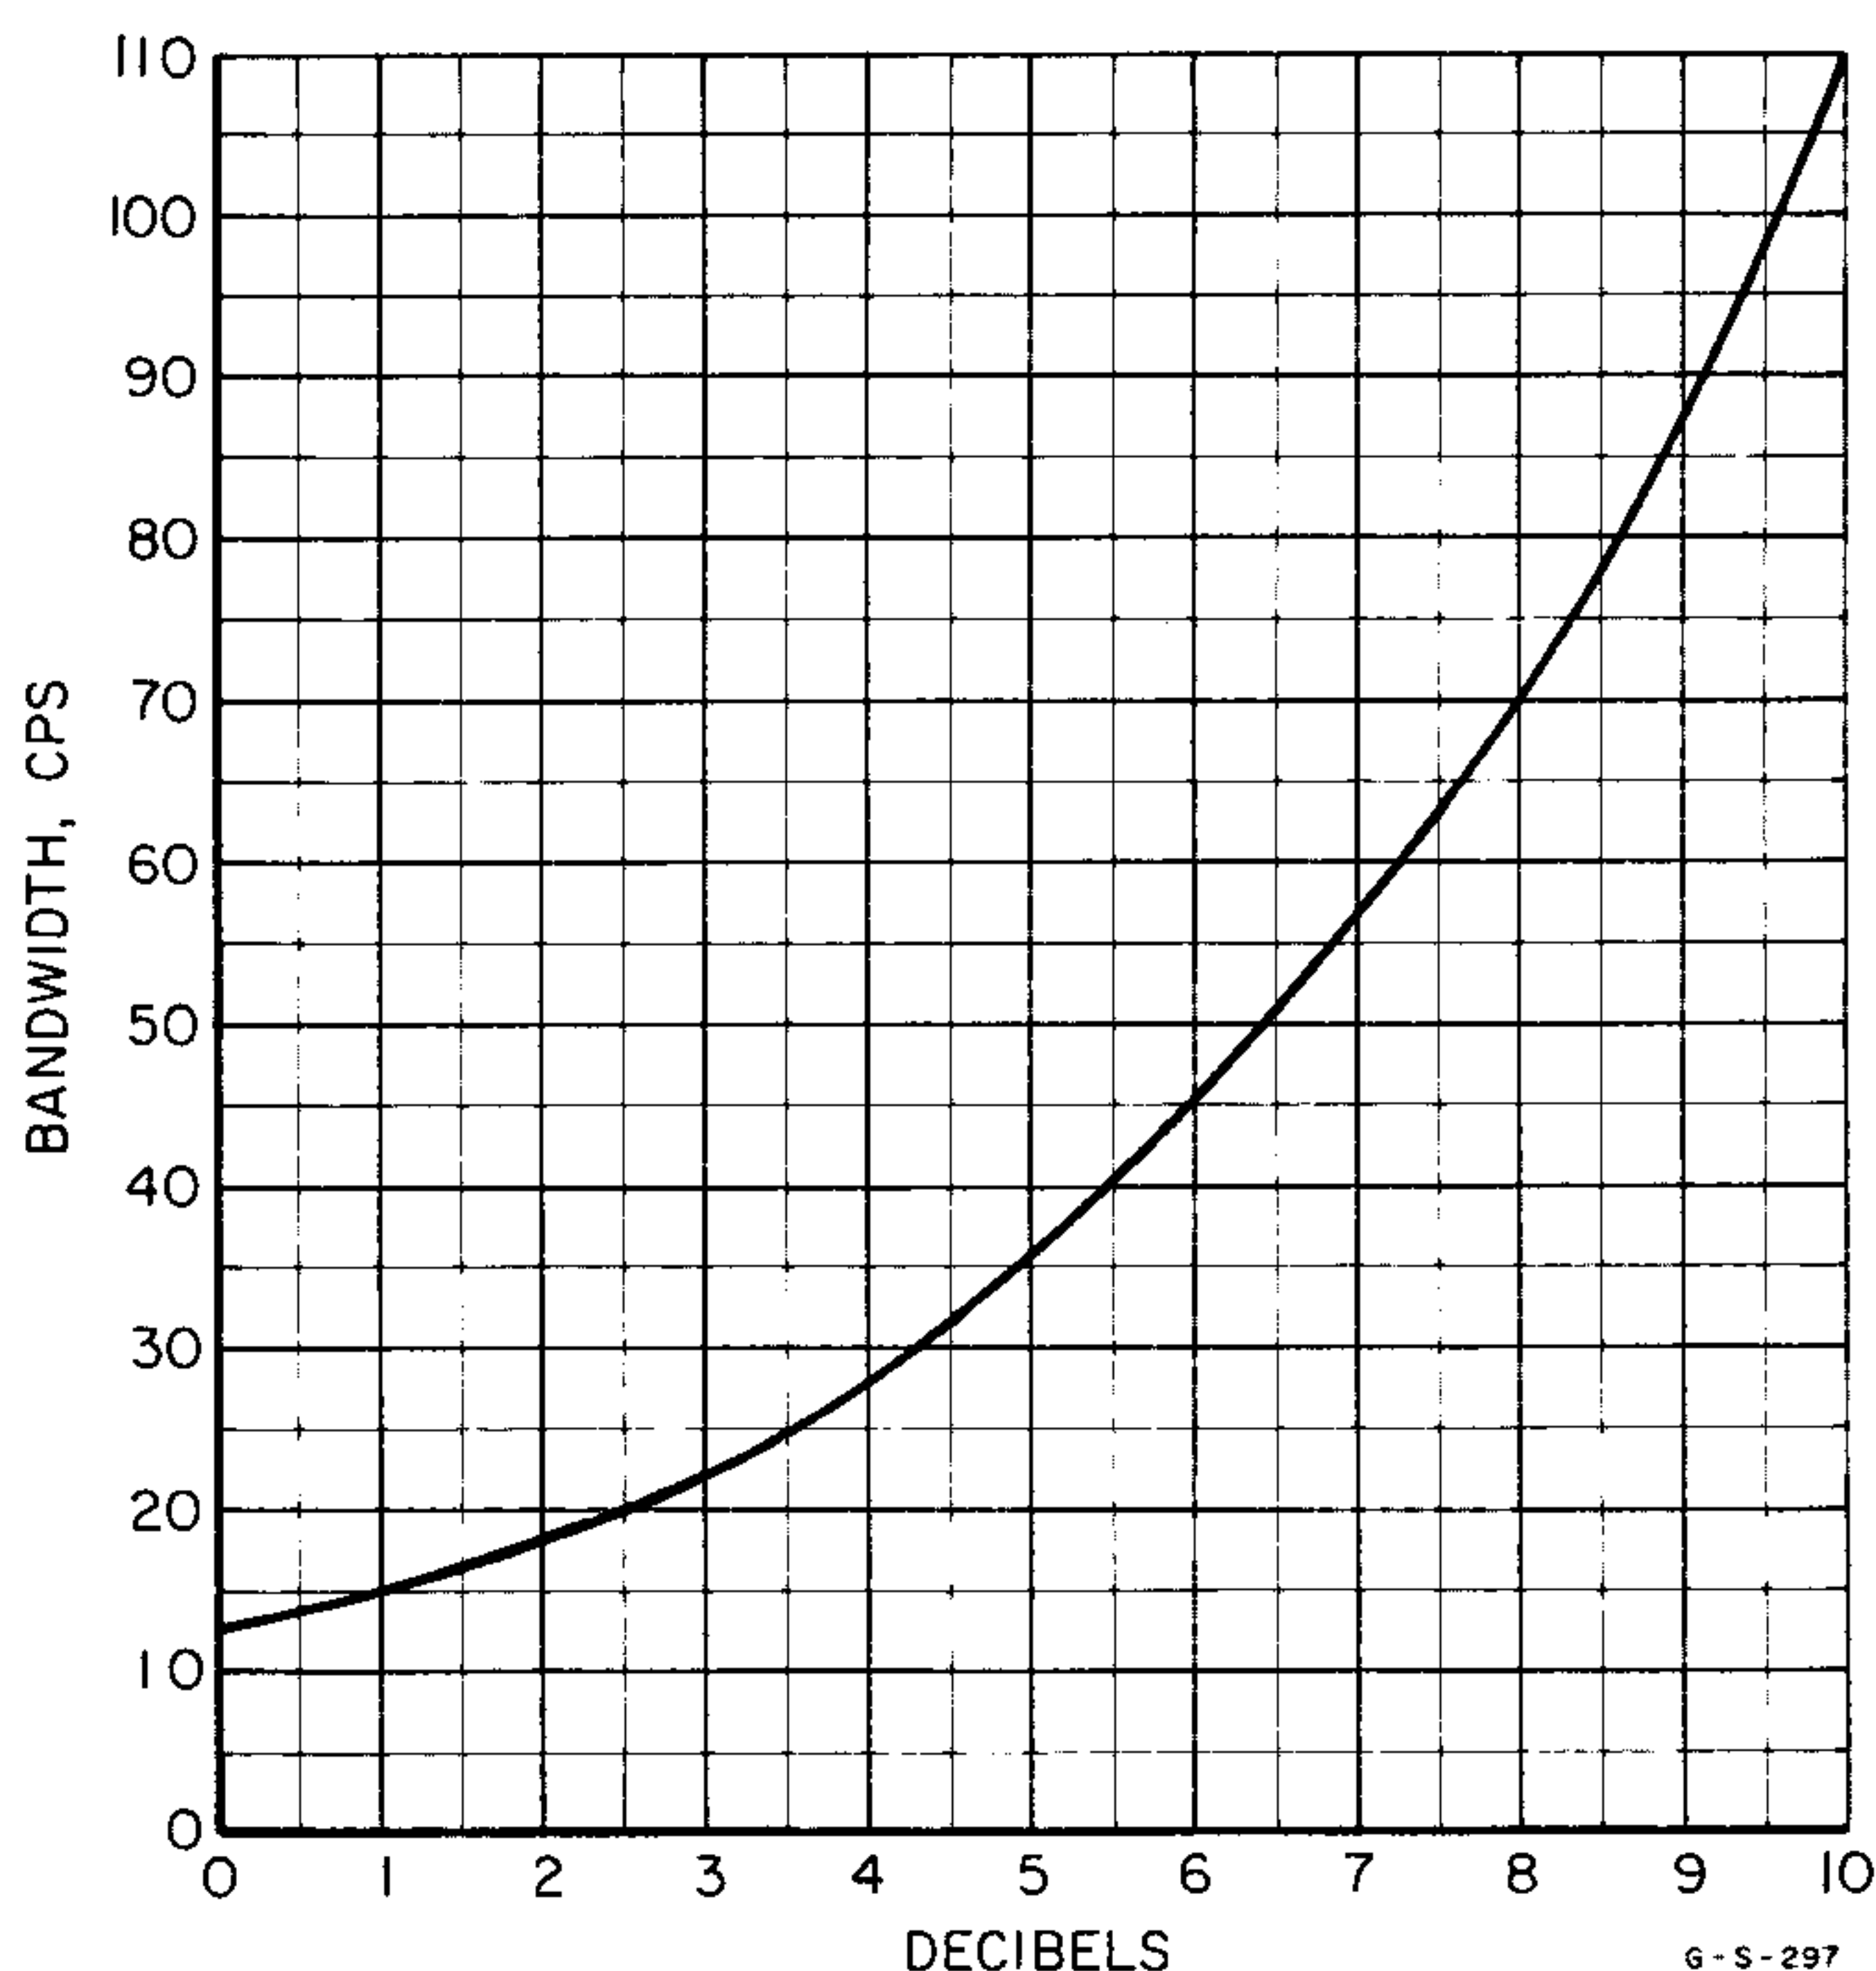

Figure 5-13. Graph to Set Model 415C Bandwidth
5-73. The Model 415C is initially shipped with the bandwidth of the tuned amplifier set to 30 cps. The BANDWIDTH control allows a variation of at least 15 cps to 100 cps as checked in paragraph 5-89. If a particular bandwidth is desired, the following procedure and figure 5-13 should be used. Figure 5-13 is a curve resulting from plotting the Bandwidth against the number of db, observed on the Model 415C meter, from a reference set when the BANDWIDTH control is at minimum, i.e. fully counterclockwise.
- d. Rotate the BANDWIDTH adjustment until the Model 415C meter indicates the number of db (on the 0 to 10 DB scale) obtained from figure 5-13 for the desired bandwidth.